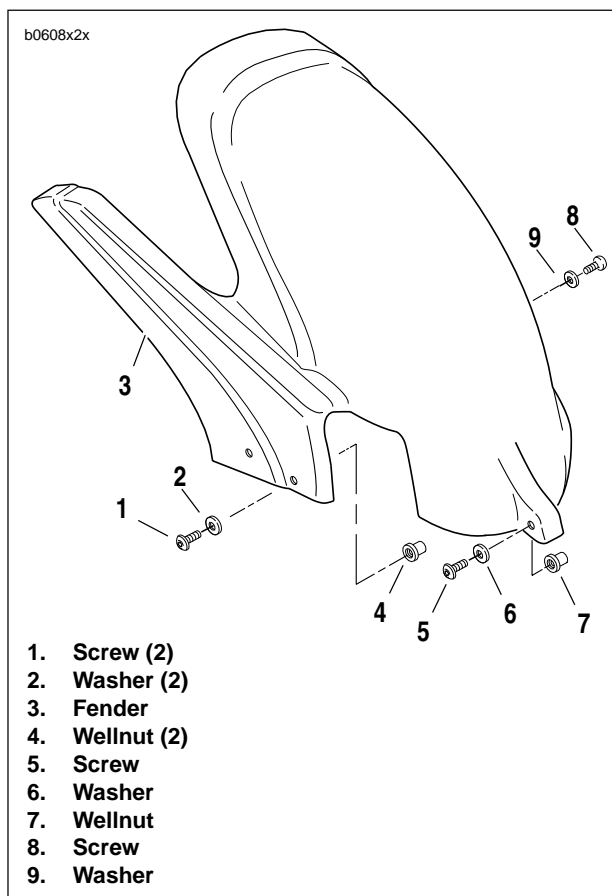

Figure 2-116. Rear Fender
2. See Figure 2-116. Remove two screws (1) and washers (2) from right side wellnuts (4).
3. Remove screw (5) and washer (6) from front wellnut (7).
4. Remove screw (8) washer (9) and clamp from left side.
5. Pull fender (3) over rear tire.
3. See Figure 2-116. Install hardware in reverse order. Apply LOCTITE THREADLOCKER 243 (blue) to all screws.